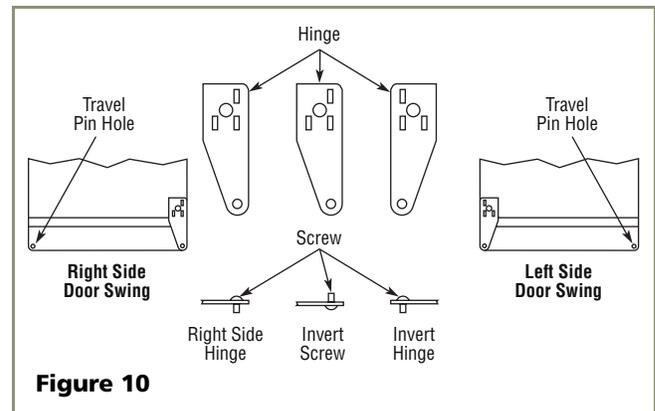

**Figure 8**
5. Install hinge on opposite side, bottom of cabinet. See **Figure 8**. Replace nut on back side where installed. Align hinge outer edge with cabinet before tightening screws.